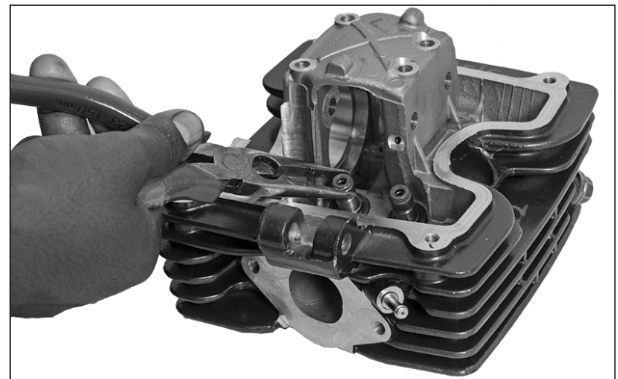

Fig. 3.53
- Remove the seal valve stem oil from the valve guides. (Fig. 3.53)